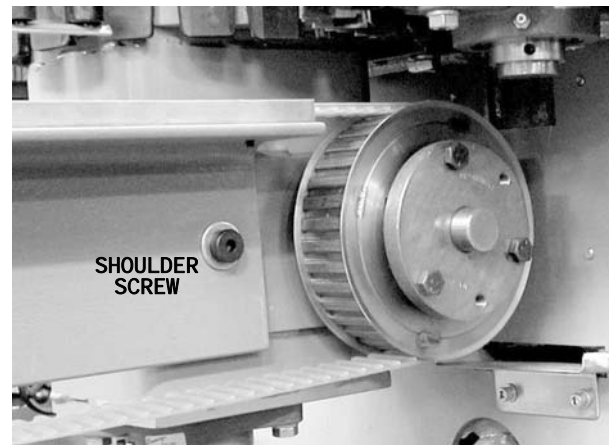

Figure 16
1. Install the conveyor system support angles to the center section with the shoulder screw provided (see Figure 16). Support the opposing ends with a stand approximately 30 inches high. Install the shoulder screw finger tight at this time.